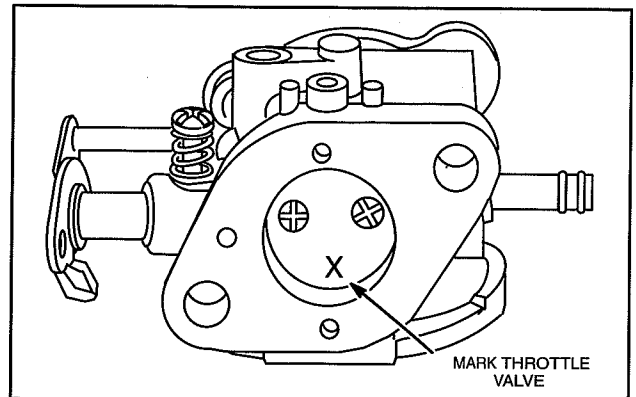

Fig. 10 – Mark Throttle Plate
8. Mark throttle plate before removing so that it may be re-installed in the same position, Fig. 10. Top and bottom edges are beveled.